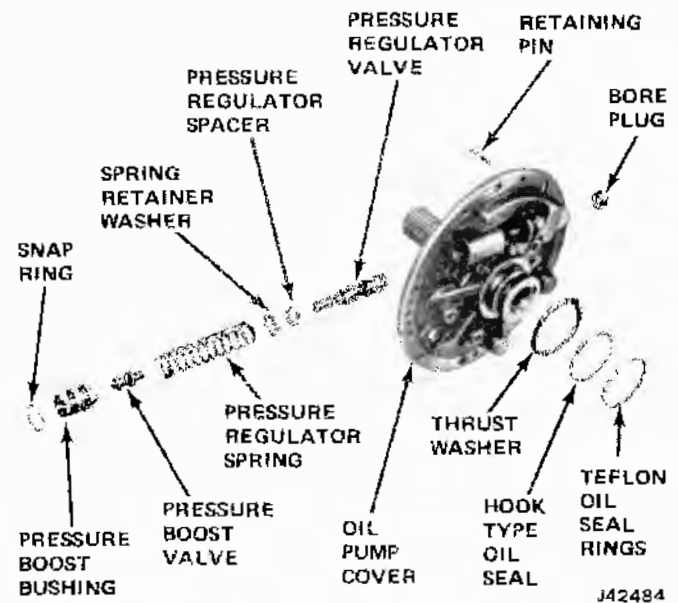
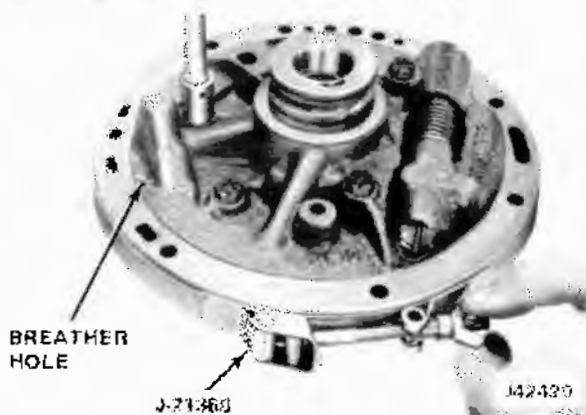

Fig. 7-54 Oil Pump Cover Assembly
Fig. 7-60 Alignment of Oil Pump Cover to Body
(1) Place oil pump assembly in hole in bench and Adapter J-21364.
(2) Compress pressure boost valve bushing against pressure regulator spring and remove snap ring from pump cover (fig. 7-54).
(3) Remove pressure boost valve bushing and valve; then remove pressure regulator spring from pump cover.
(4) If furnished, remove spring retainer washer, pressure regulator spacer, and pressure regulator valve from pump cover.
(5) Remove attaching bolts and pump cover from pump body.
(7) Remove hook type oil rings and thrust washer from pump cover (fig. 7-54).
(2) With stator shaft protected, clamp pump cover in vise.
(3) Insert spacer(s), if used, spring retainer washer and spring into pressure regulator bore of pump cover (fig. 7-54).
(4) Install pressure regulator valve from opposite end of bore, stem end first.
(5) Install boost valve into bushing, stem end out; then insert both parts into pump cover.
(6) Compress bushing against spring, and secure into pump cover with retaining snap ring.
(7) Install pressure regulator valve bore plug at opposite end of bore, and secure with retaining pin.
(8) Install selective thrust washer and one hook type oil seal ring and one teflon oil seal ring on delivery sleeve of pump cover.
(9) Secure pump cover to pump body with attaching bolts.
(10) Place pump Aligning Strap J-21368 over pump body and cover, and tighten tool (fig. 7-60). Tighten the pump cover bolts 15 to 20 foot-pounds torque.
(11) Remove Aligning Strap J-21368.
(12) Install pump-to-transmission case O-ring oil seal in pump assembly, with chamfer outward.